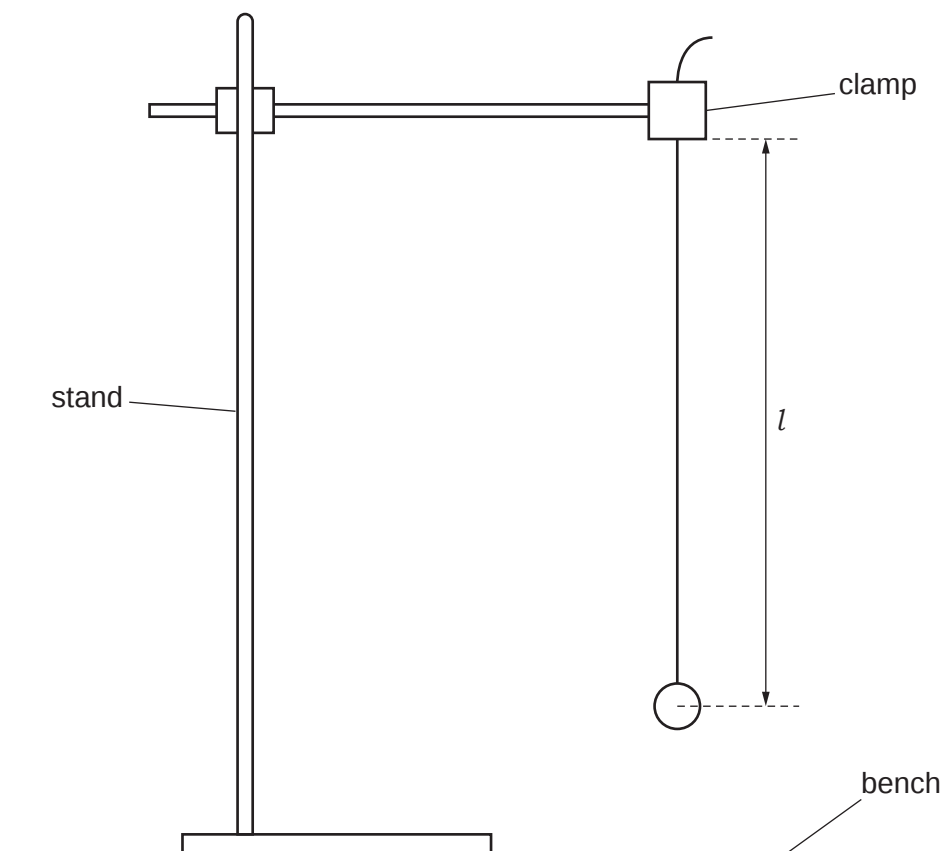

Fig. 4.1
The student sets up a pendulum as shown in Fig. 4.1.
- (a) (i) Measure the length l of the pendulum in Fig. 4.1 to the nearest 0.1 cm.
(ii) Fig. 4.1 is drawn to a scale of **one-tenth** full size.